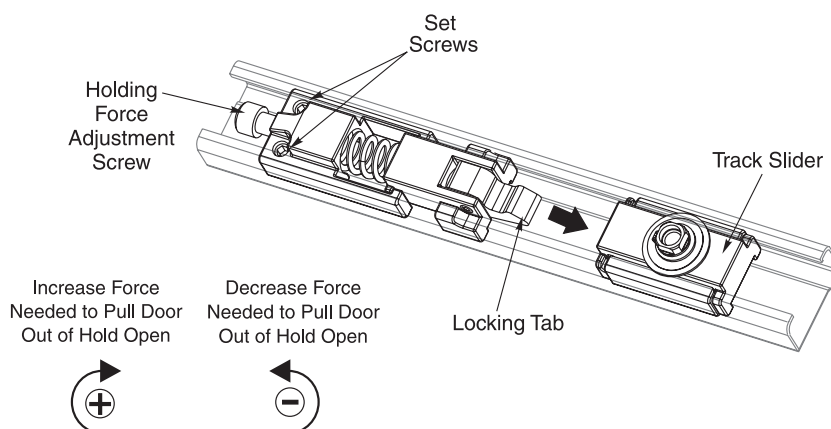

Figure 20
1. Insert locking tab of hold open assembly into track slider. (Figure 20)